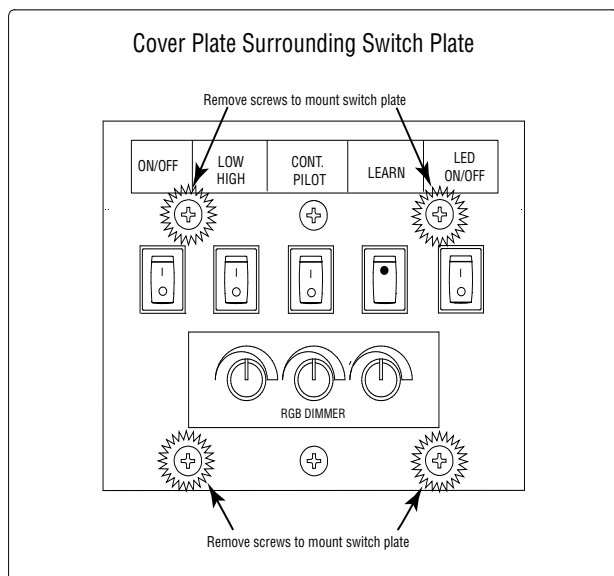
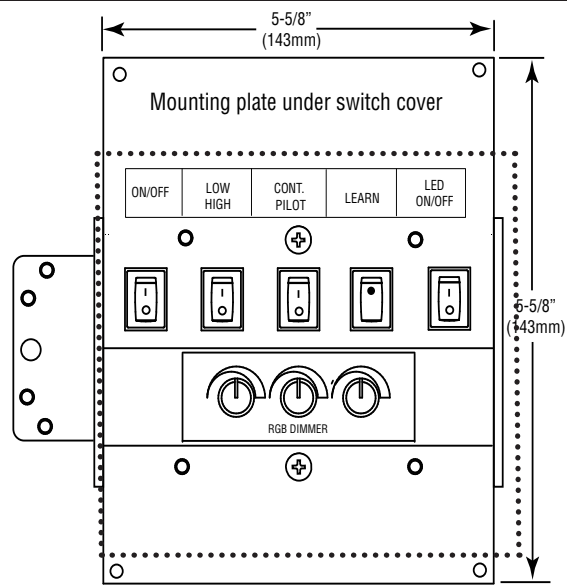

Fig. 24 RGB control box with 8 3/4" x 8 3/4" cover plate.
Fig. 25 RGB control box mounting plate
Step 11: Remove the RGB control box from the components parts carton. Find a suitable location within a close proximity of the fireplace for convenience of operation and mount the control box upright and level as shown in Fig. 26, page 21. Use Figs 24 & 25 for dimensional reference. The fireplace is supplied with 10-feet of wiring for the RGB control box (switches and dimmer) installation. **Note:** If desired, you can purchase 10-foot wire extensions in the accessories section that will enable you to move the RGB control box up to 50-feet away from the fireplace. **CAUTION:** Ensure all switches are in the OFF position. “I” indicates ignite/ON and “O” indicates OFF. Learn button does not apply.
Step 12: Remove the four (4) outer screws from each corner inside the cover plate and lift off. See Fig. 24. This will expose the mounting plate. See Fig. 25. **CAUTION:** Do not remove the two center screws from the cover plate. This will release the entire switch box wiring from inside the junction box and make it difficult to reinstall.
Step 13: Find a desired location to mount the RGB control box. Cut a 6" wide x 5 1/2" tall hole into the cement board. See dotted line in Fig. 25. Mount the RGB control box. **Note:** The RFP-77111 and RFP-77161 wires can be removed from the switches can be removed for easier installation, if needed. Ensure to match the wires with the labels for each switch when reattaching.